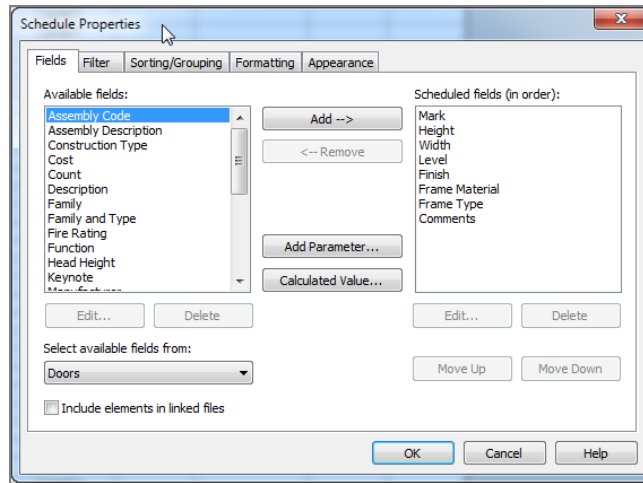

FIGURE 11.3: Adding the fields to produce a door schedule
4. The next dialog box lets you add the fields (parameters) required for your schedule. The first field you'll add is Mark. To do this, select Mark in the Available Fields area to the left, and click the Add button in the middle of the dialog box to move the Mark field to the right, as shown in Figure 11.3.
5. Add the rest of the following fields using the same method (see Figure 11.3):